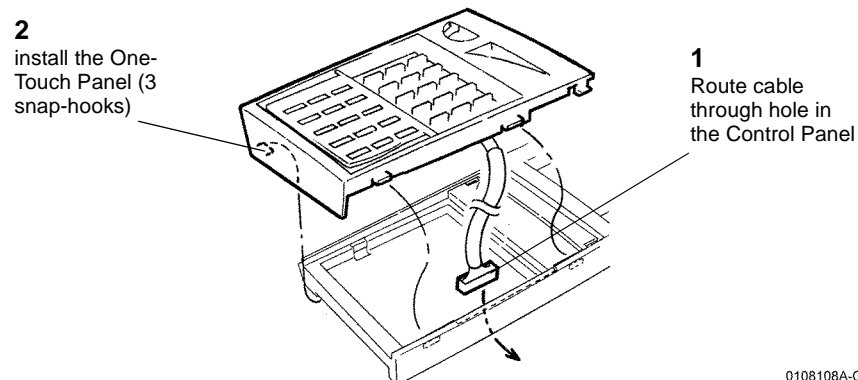

Figure 3 Installing the One-Touch Panel
1. Install the new One-Touch Panel on the Control Panel (Figure 3).